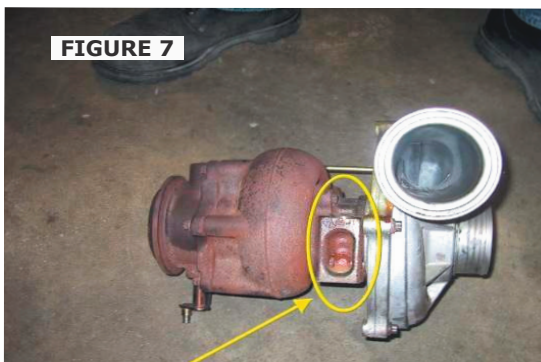
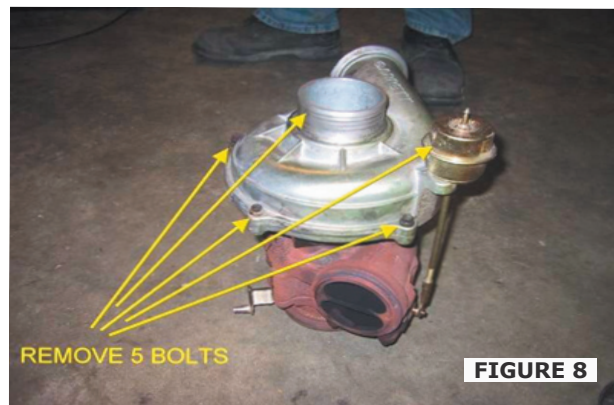

FIGURE 7
FIGURE 8
STEP 6 – Remove the compressor and turbine housing. Using an 8mm 12-point wrench, remove the 4 bolts that hold the turbine housing to the center section (fig7). They are fairly tight and aren't the easiest bolts to get a bite on with the wrench. Use Caution: DO NOT USE A STANDARD 5/16" wrench. You WILL round them off if you do so. Let them soak in penetrating oil for a few minutes and then slip the boxed end of a larger wrench over the smaller 8mm wrench in order to increase your leverage. Keeping the 8mm wrench seated snugly on the bolt, "bump" the larger wrench with some force. The bolts should pop loose and be fairly easy to finish removing. Use the same procedure for the 5 compressor housing bolts (fig8). Be careful not to damage the large compressor housing o-ring, you will re-use this. It does like to expand fairly easily so try not to stretch it any more than necessary.